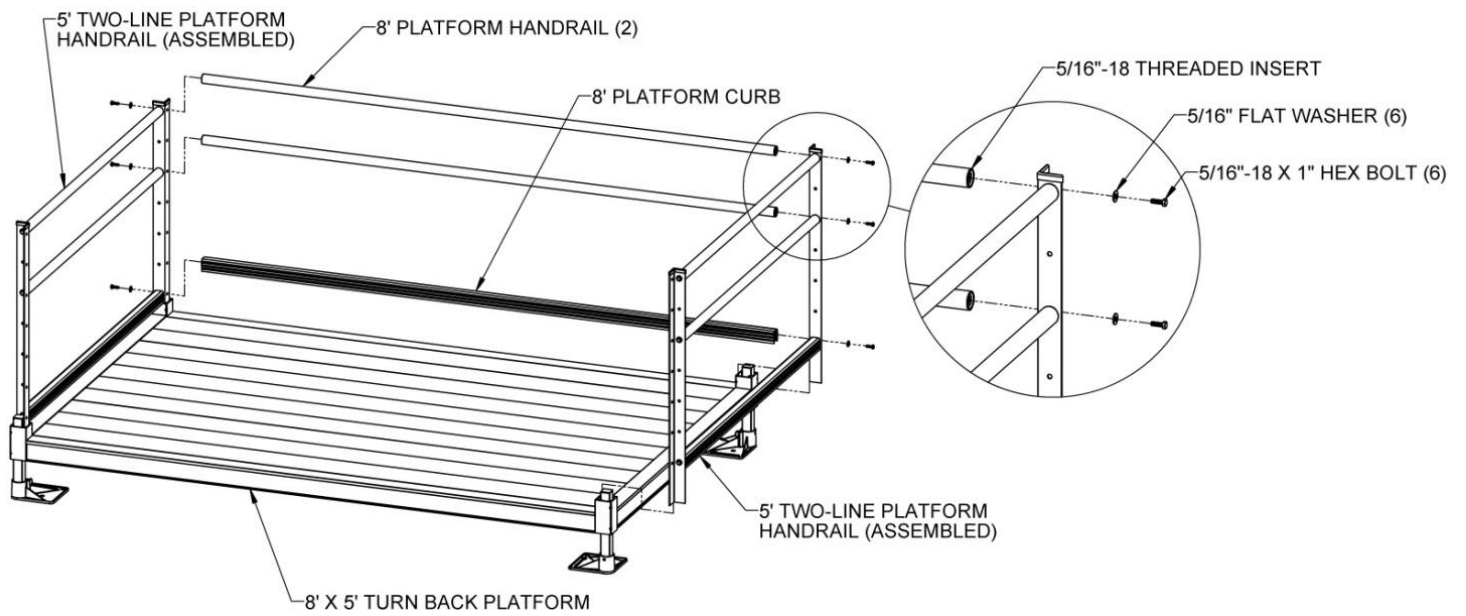
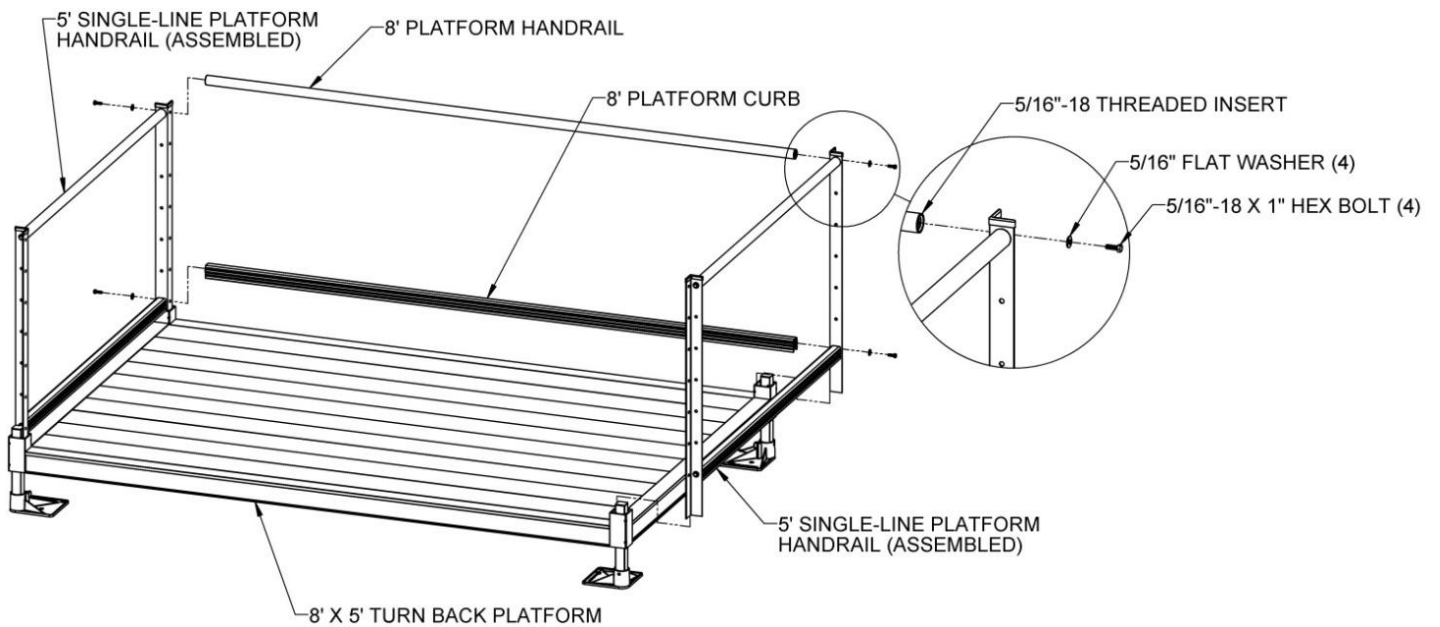
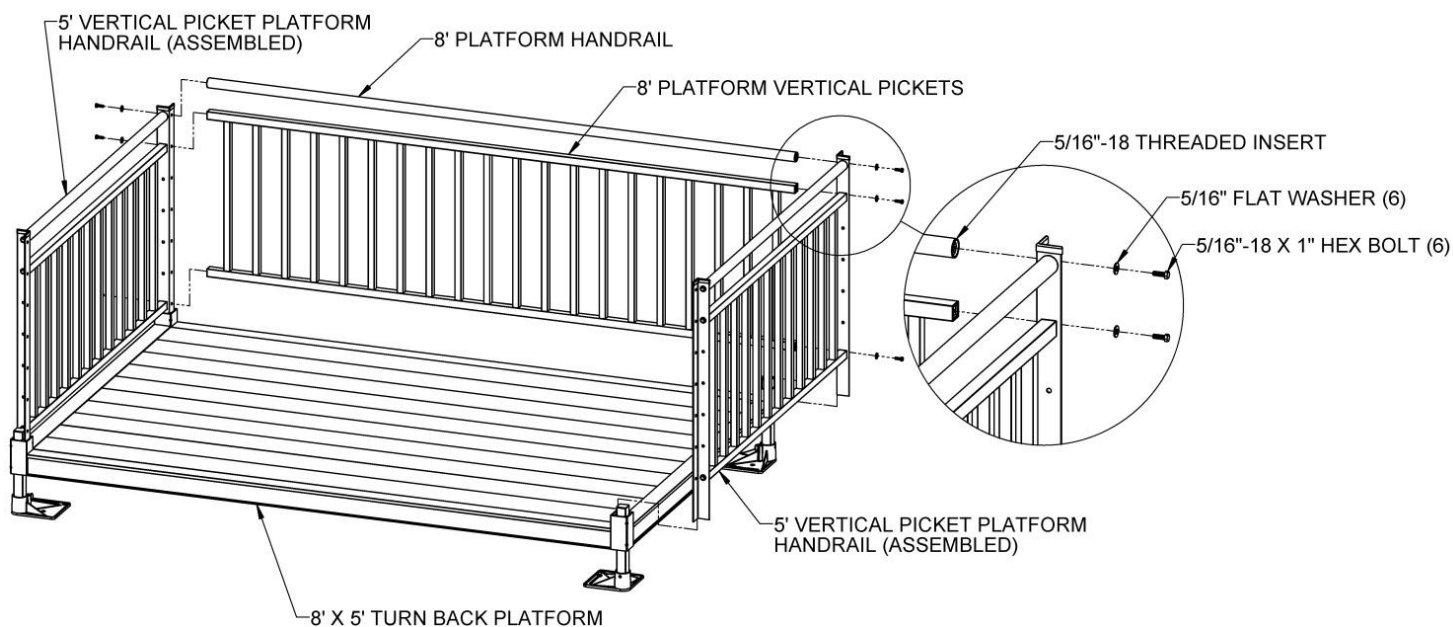

FIG. 4.12
FIG. 4.13
FIG. 4.14
- 4.8.3. Assemble the 8' platform handrails and curb between the two 5' platform handrails by threading 5/16"-18 x 1" long hex bolts through the holes in the 5' platform posts which align with the 5' handrails and curb and into the threaded inserts in the ends of the 8' handrails and curb. Tighten all fasteners securely (FIG. 4.12).
- 4.8.4. 8' platform Single-Line, Vertical Picket and Horizontal Picket handrails are assembled in a similar manner (FIG. 4.12, FIG. 4.13 & FIG. 4.14).